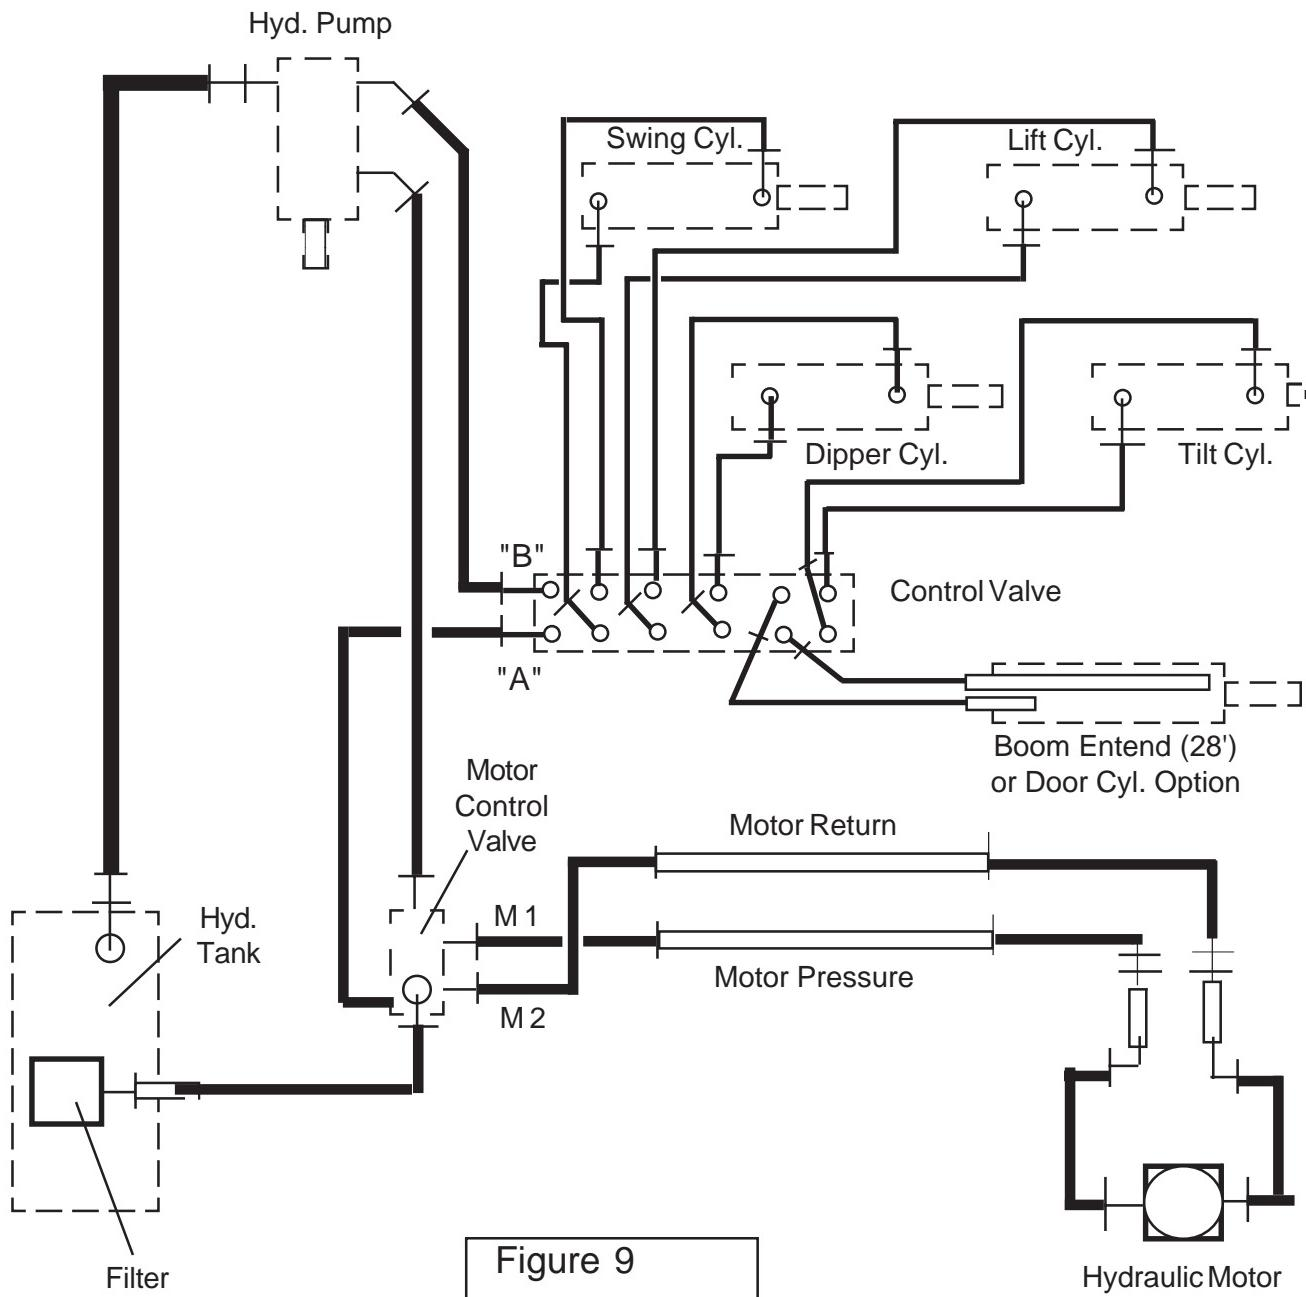

Figure 9
3. The Control valve will bolt on the top of the High Frame on the right hand side. There is a tab welded to the Frame that has two holes in it, the Valve mount plate will bolt to this tab and the valve will bolt to mount plate (**See Figure 9**) The Valve in Figure 6 shows the Hoses and Control Cables already connected, this is for illustration only. The Control Cables and Hoses are connected after the Valve is bolted to the mount plate. Most of the Hoses shown in figure 9 are running from the Boom. These Hoses must be connected to the correct Port on the valve and to the correct side to operate correctly.
Cylinder Hydraulic Control Circuit: (See Figures 9 & 10)
Cylinder Hydraulic Control Circuit: (See Figure 9 & 10)
6. Hydraulic Cylinder Hoses. The Hoses for the Hydraulic Cylinders will be marked with bands that have the Part Numbers on them. These part numbers will vary with the size of the Boom Model. The 28 ft. model will have more hoses for the Boom Extend Function, the model with the Hydraulic Door on cutter head will have more hoses. To find which Hose you have you will need to consult the Parts / Operators manual. When connecting the Hoses to The Valve use these numbers to connect the correct hoses to the correct ports. It may be required that you do some tracing of hoses to find which hose is hooked to which end of a Cylinder. Listed below is a list of which end of Hydraulic Cylinder should be connected to which Port on valve. (**See Figure 9 & 10**)